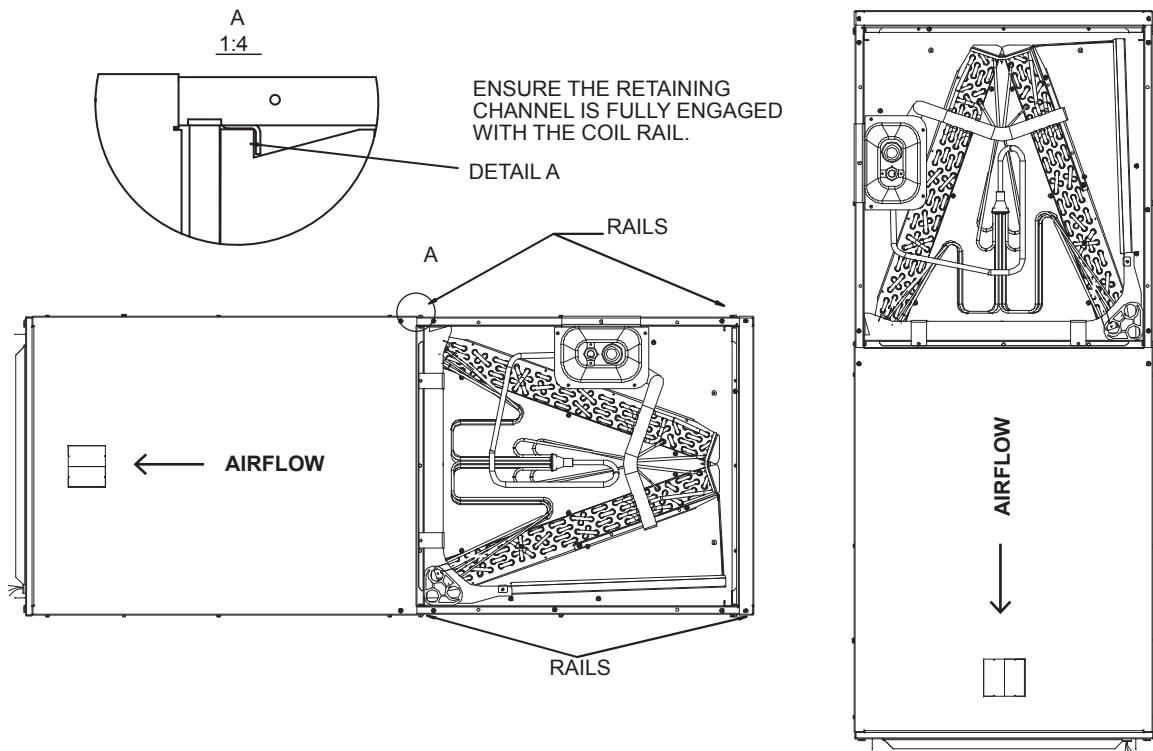

Fig.8 VERTICAL DOWNFLOW & HORIZONTAL LEFT APPLICATIONS
Conversion to Vertical Downflow: A vertical upflow unit may be converted to vertical downflow. Remove the door and indoor coil and reinstall 180° from original position. See Fig.8.
- Rotate unit into the downflow position, with the coil compartment on top and the blower compartment on bottom. See Fig. 8.
- Reinstall the indoor coil 180° from original position. Ensure the retaining channel is fully engaged with the coil rail. See Fig. 8.